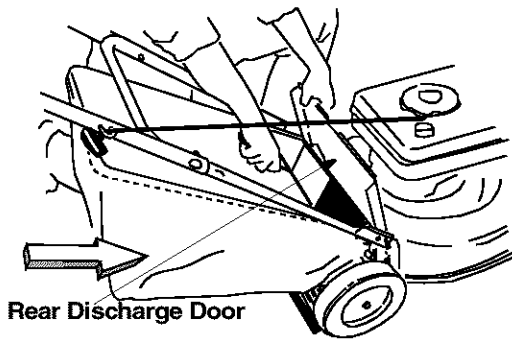

Figure 9
- Place the hooks of the grass catcher into the slots in the handle bracket assemblies on both sides. See Figure 9 . Release the rear discharge door.